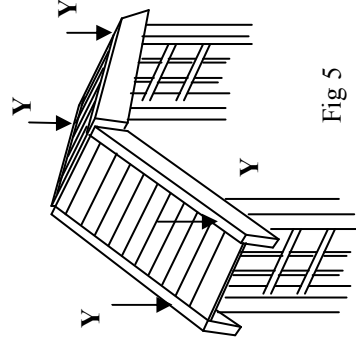

Fig 5
6. Raise the roof onto the seat assembly and fix through into the top of the posts as shown in Fig 5.